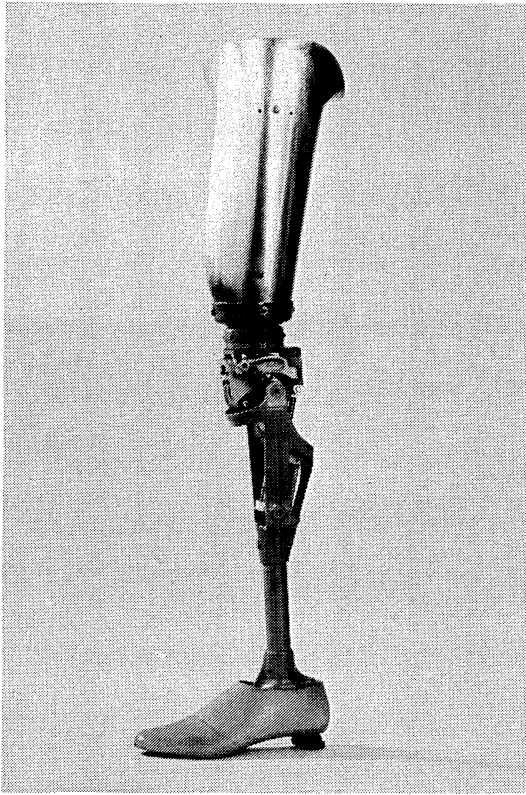
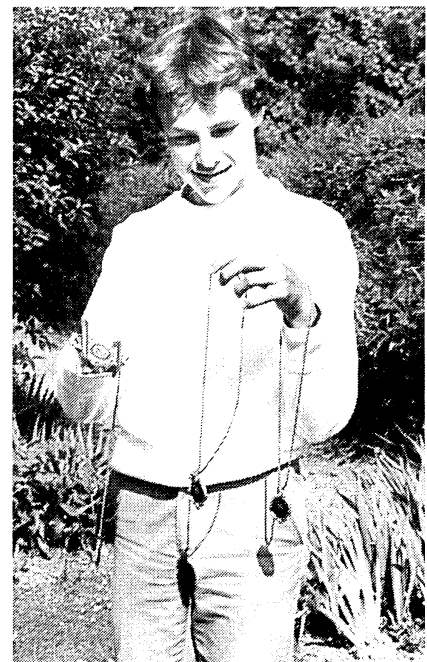

Figure 1 An artificial leg without its outer cover, showing the basic structure
Figure 3 Nigel wearing his split hook hand, holding medals he won at the Stoke Mandeville Games
*Acknowledgements* Figures 1 and 7 supplied by the Department of Health and Social Security Limbfitting Centre, Roehampton; Figure 3 supplied by *The Hemel Hempstead Gazette*.